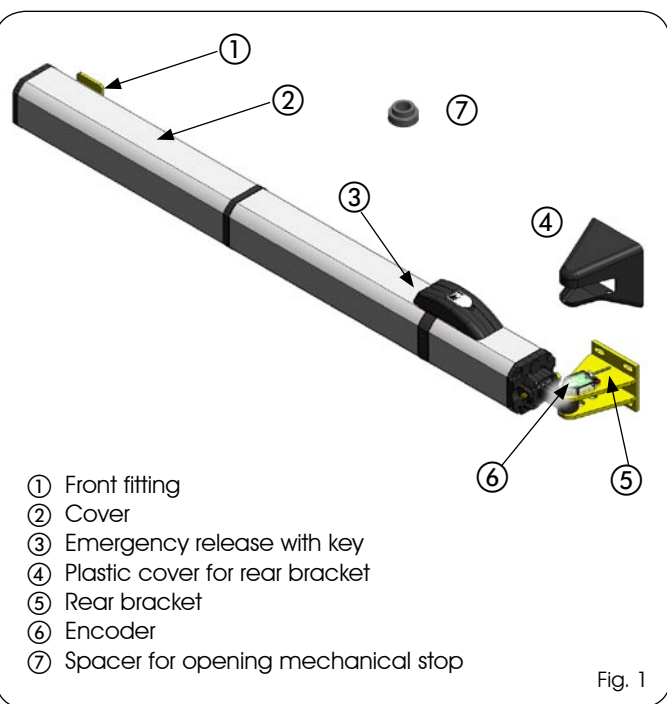

Fig. 1
* Not necessary in case of use of opening mechanical stops inside the operator (Fig.1 re.⑦)